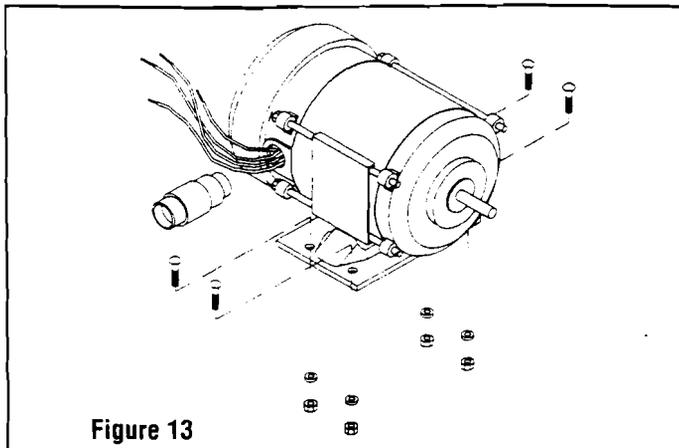

Figure 13
- e. Remove 4 bolts in motor base holding it to rear cabinet shelf. See Figure 13.